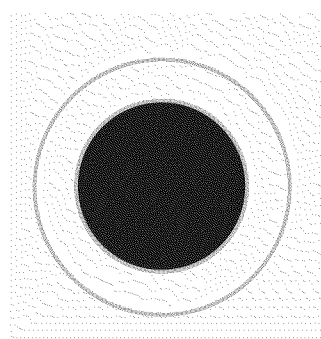
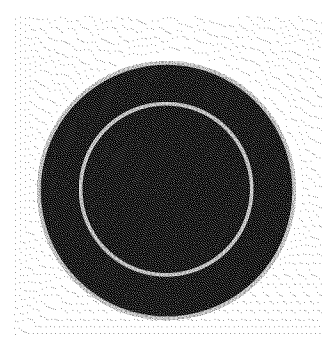

Fig. 2
Fig. 3
4. Press the **Burner Size** keypad to toggle between one (Fig. 2) or two (Fig. 3) elements.
4. Press the **Burner Size** keypad to toggle between one (Fig. 1), two (Fig. 2) or three elements (Fig. 3).